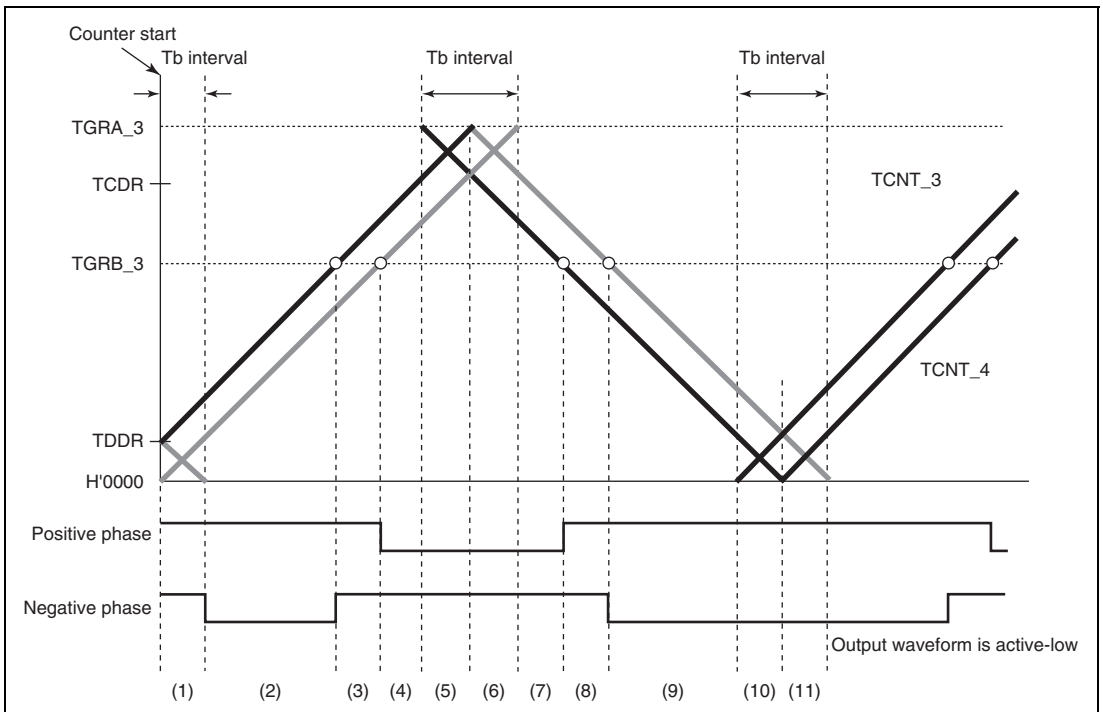

Figure 11.56 Timing for Synchronous Counter Clearing
Initial output suppression is applicable only when synchronous clearing occurs in the T_b interval at the trough as indicated by (10) or (11) in figure 11.56. When synchronous clearing occurs outside that interval, the initial value specified by the OLS bits in TOCR is output. Even in the T_b interval at the trough, if synchronous clearing occurs in the initial value output period (indicated by (1) in figure 11.56) immediately after the counters start operation, initial value output is not suppressed.
Figures 11.58 to 11.61 show examples of output waveform control in which the MTU2 operates in complementary PWM mode and synchronous counter clearing is generated while the WRE bit in TWCR is set to 1. In the examples shown in figures 11.58 to 11.61, synchronous counter clearing occurs at timing (3), (6), (8), and (11) shown in figure 11.56, respectively.
(Timing (6) in Figure 11.56; Bit WRE of TWCR in MTU2 is 1)**
(Timing (11) in Figure 11.56; Bit WRE of TWCR is 1)**
Figures 11.64 to 11.67 show examples of operation in which the MTU2S operates in complementary PWM mode and MTU2-MTU2S synchronous counter clearing is suppressed by setting the SCC bit in TWCR in the MTU2S to 1. In the examples shown in figures 11.64 to 11.67, synchronous counter clearing occurs at timing (3), (6), (8), and (11) shown in figure 11.56, respectively.
(Timing (6) in Figure 11.56; Bit WRE is 1 and Bit SCC is 1 in TWCR of MTU2S)**
(Timing (11) in Figure 11.56; Bit WRE is 1 and Bit SCC is 1 in TWCR of MTU2S)**